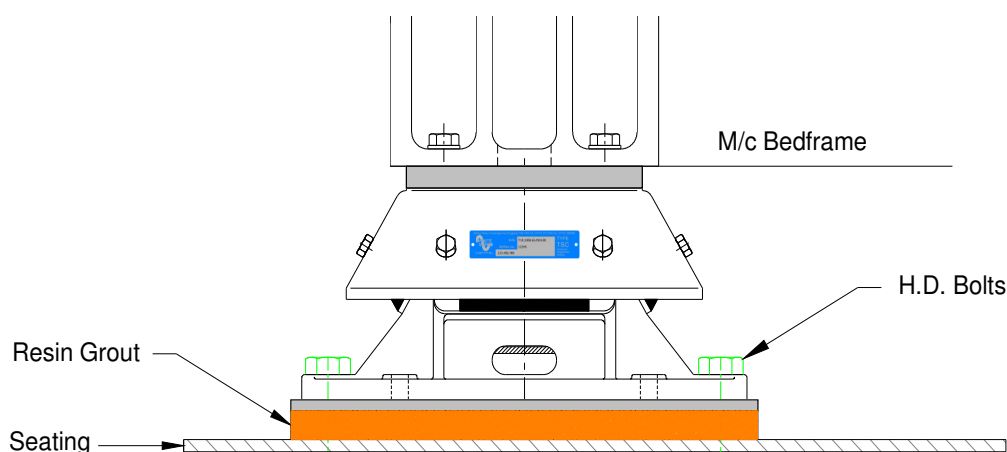

Figure 7
18. Once the chocks are fitted or the resin chock has hardened, remove the levelling screws from the mount bases and secure the mount H.D. bolts. Remove the drive end and side thrust brackets and screws and also the engine jacking brackets. See Figure 7 below.